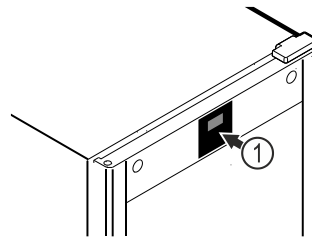

Fig. 51 Example illustration
The thermometer is calibrated at the factory (offset of +6 Kelvin). If the interior temperature differs from the temperature display *Fig. 51 (1)*, you can calibrate the thermometer.